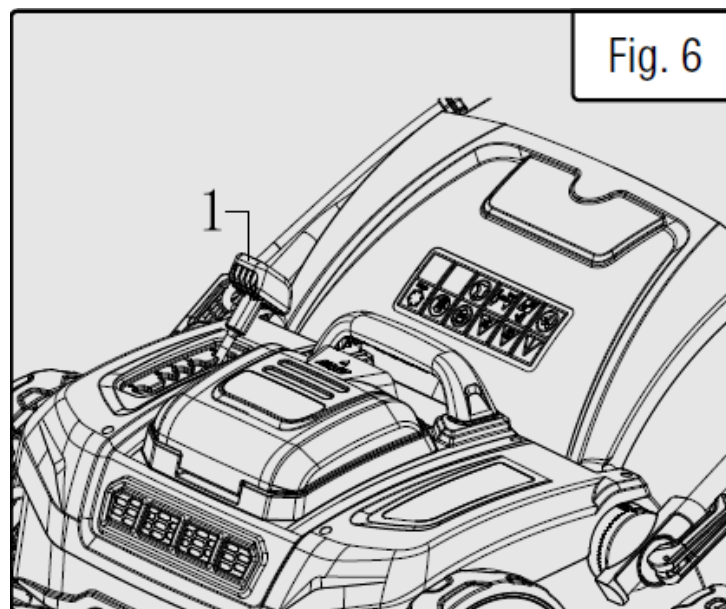

Fig. 6
1. To adjust the depth (Fig. 6), move the depth adjustment lever (1) to the right and then down to the preferred gear. See the chart below for different depth settings: